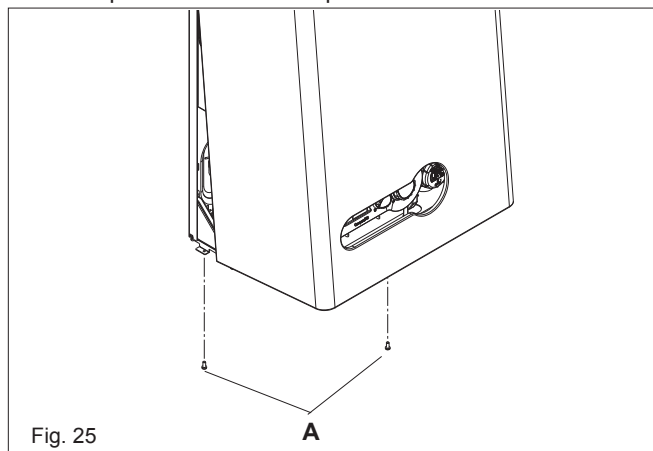

Fig. 25
4.7.1 CASING REMOVAL (fig. 25)